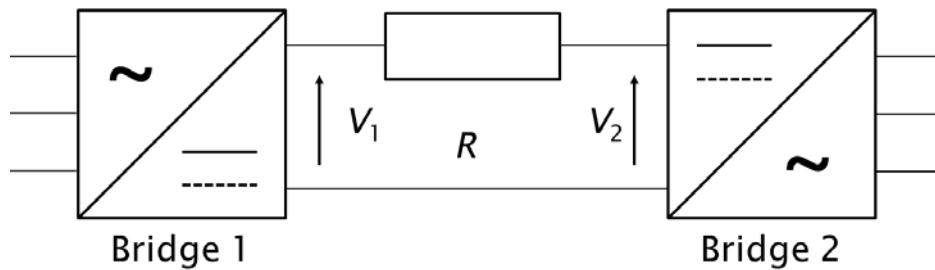

Figure 1
Figure 1 is a diagram of an ac to ac power transmission system.
- (a) Write a list of bullet points to illustrate the operation and features of the ac to ac power transmission system in Figure 1.
- (b) Calculate the voltages V_1 and V_2 for the transmission circuit shown in Figure 1.